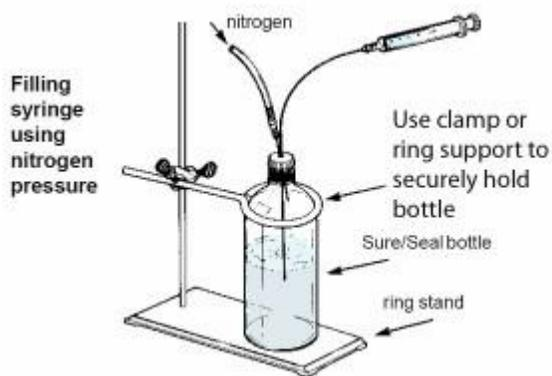

Fig.2A Filling syringe using nitrogen pressure
- This will allow the liquid to slowly fill the syringe (up to 100mL) as shown in Fig. 2A. Pulling the plunger causes gas bubbles.